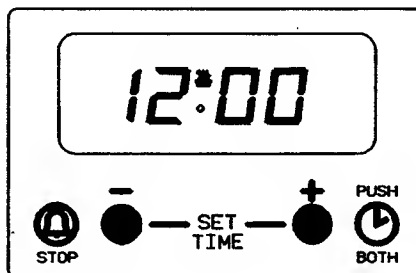

Fig. 6.2
Press buttons (1) and (2) together. The display will read 12:00. See Fig. 6.2.